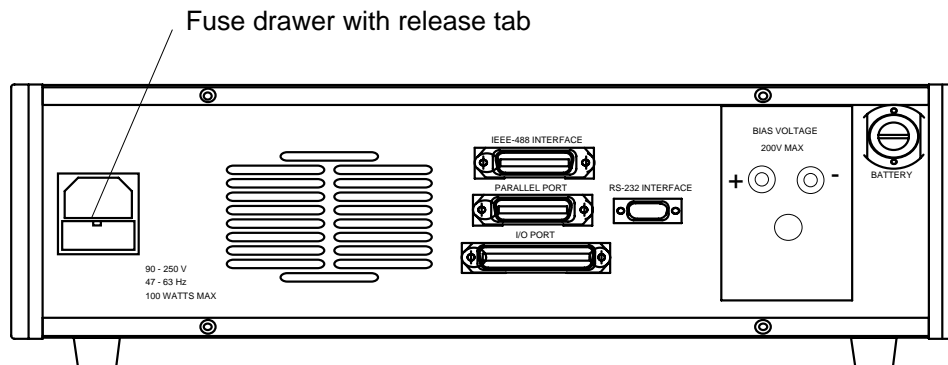

Figure 1-4
- Remove the **fuse drawer** by inserting a small flat head screwdriver behind the small tab to force the draw outward. Refer to Figure 1-4.